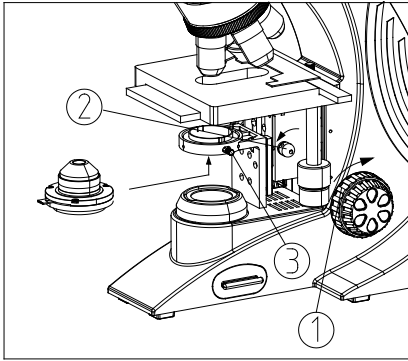

Figure 4
1. Adjust coarse focus knob ① to make the stage in highest location. (Figure 4)
2. Adjust the condenser adjustment knob ② to adjust the condenser to the appropriate location.
3. Loosen the lock-screw ③ of condenser.
5. Tighten the lock-screw ③, then adjust the condenser adjustment knob ② to the highest position.